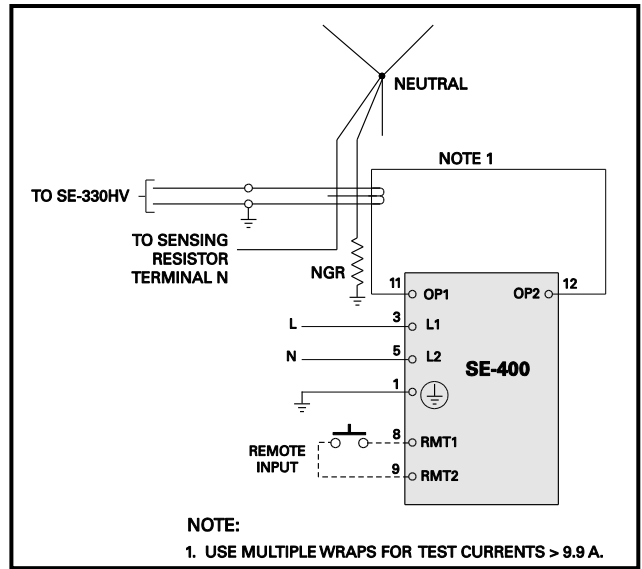

FIGURE 21. Ground-Fault-Test Circuit.
- Verify proper reaction of the circuit-interrupting device in response to a simulated or controlled ground-fault current. To simulate ground-fault current, use CT-primary current injection (does not apply for bushing-type CT’s). Fig. 21 shows a test circuit using an SE-400 Ground-Fault-Relay Test Unit. The SE-400 has a programmable output of 0.5 to 9.9 A for a duration of 0.1 to 9.9 seconds. Set the test current to 120% of GF TRIP LEVEL. Inject the test current through the current-sensor window for at least 2.5 seconds. Verify that the circuit under test has reacted properly. Correct any problems and re-test until the proper reaction is verified.